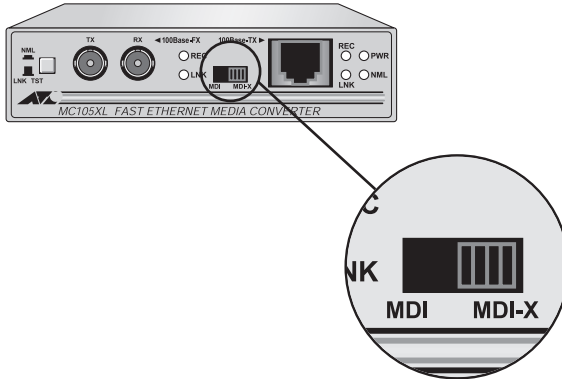

Figure 8 MDI/MDI-X Switch
7. Set the media converter to the NML (IN) position for normal network operation.
8. Remove the dust cover from the fiber optic connector and connect the cable to the fiber optic port. Verify that the media converter’s transmitter port (TX) is connected to the end-node’s receiver port (RX) and that the media converter’s receiver port (RX) is connected to the end-node’s transmitter port (TX).
10. Set the MDI/MDI-X switch as follows. (Refer to Figure 8 for the location of the switch.)